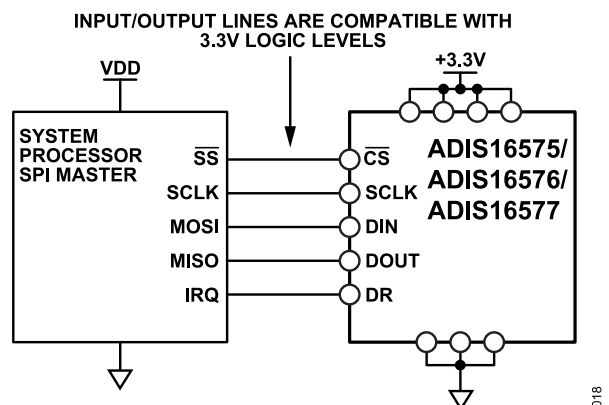

Figure 47. Electrical Connection Diagram
The SPI provides access to the user registers (see Table 13). Figure 47 shows the most common connections between the ADIS16575/ADIS16576/ADIS16577 and an SPI main device, which is often an embedded processor with an SPI-compatible interface. In this example, the SPI main uses an interrupt service routine to collect data every time the data ready (DR) signal pulses.